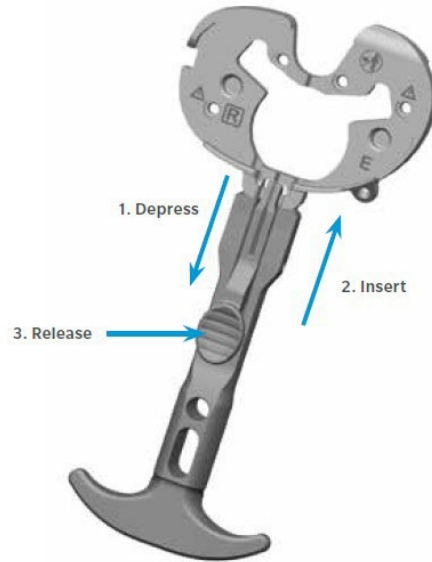

Figure 13: Cemented Tibial Sizing Plate with Handle
2. Attach the tibial sizing plate handle to the cemented tibial sizing plate (**see Figure 13**). The recommended tibial rotational alignment is within 5 degrees of the axis created by the medial $\frac{1}{3}$ of the tibial tubercle and the PCL attachment point. The engraved lines on the cemented tibial sizing plate can be used to aid in establishing the desired tibial rotation.